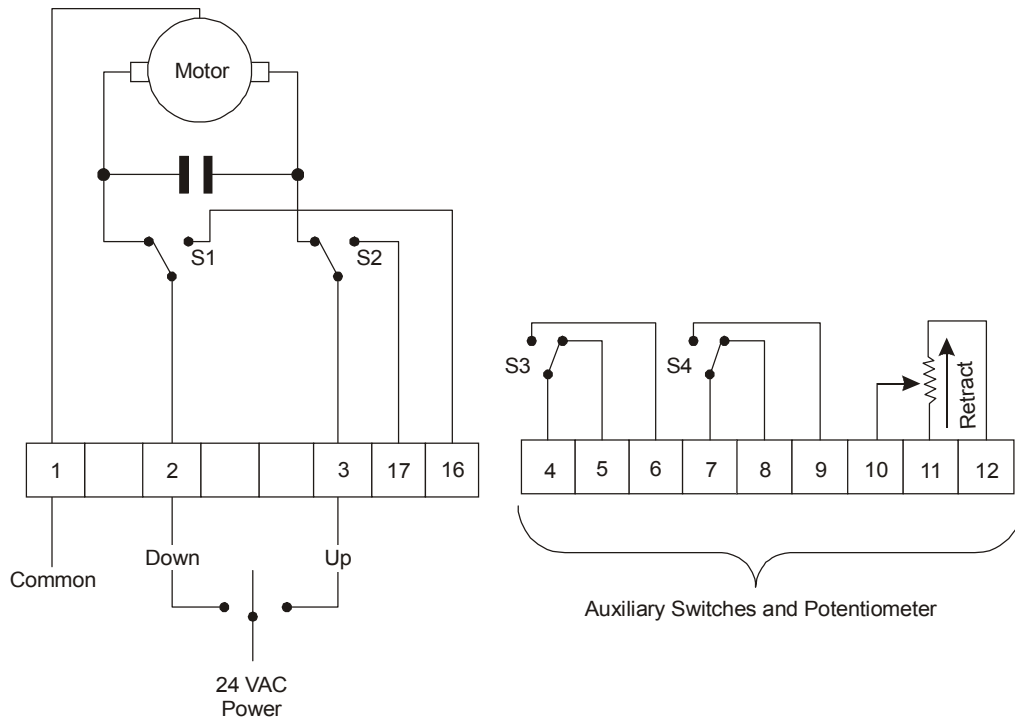

Figure 6: VA-6100-AGC Wiring Diagram for On/Off (Floating) Control
3. Apply 24 VAC power to Terminals 1 and 3 (as illustrated in Figure 6) to drive the valve stem fully up. The ohmmeter should display a resistance of 1,300 to 1,500 ohms for a 4 in. valve, 1,600 to 1,800 ohms for a 5 in. valve, and 1,700 to 1,900 ohms for a 6 in. valve.